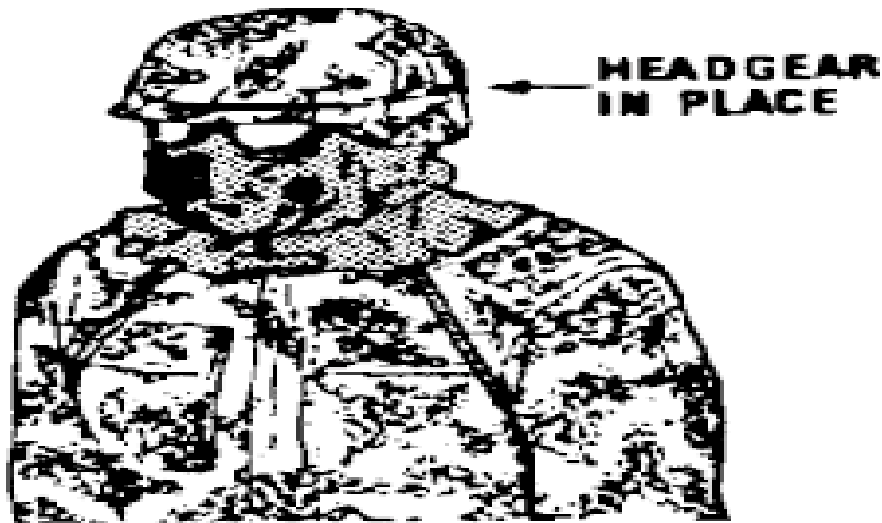

Figure E-51. Replace headgear
5. Replace your headgear (figure E-51).